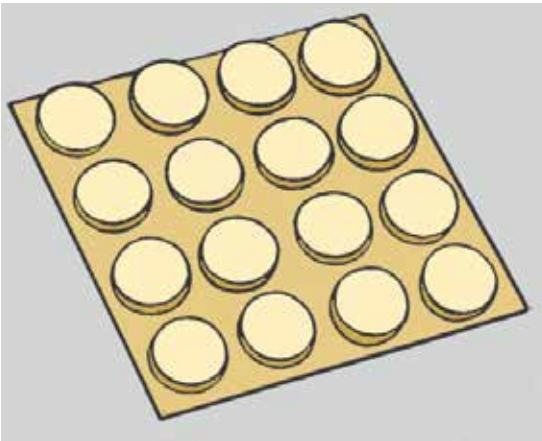

Fig. 8.3
3. Use a hammer to fit knock-in furniture pads. These are recommended for wooden legs and heavy furniture because they sit better. Use self-adhesive furniture pads where knock-in pads are unsuitable. Furniture pads wear out and need replacing regularly (Fig. 8.3).
5. Use Touch-up Lacquer (water-based) on UV-lacquered floors to repair minor damage and small scratches, and to make good repairs using wood filler. It has the same gloss value as satin lacquer and matt lacquer (30° and 10° Gardner, respectively). Glass bottle (30ml) with brush. Protect it from frosting. Expiry date should be at least one year from the date of manufacture (Fig. 8.3).